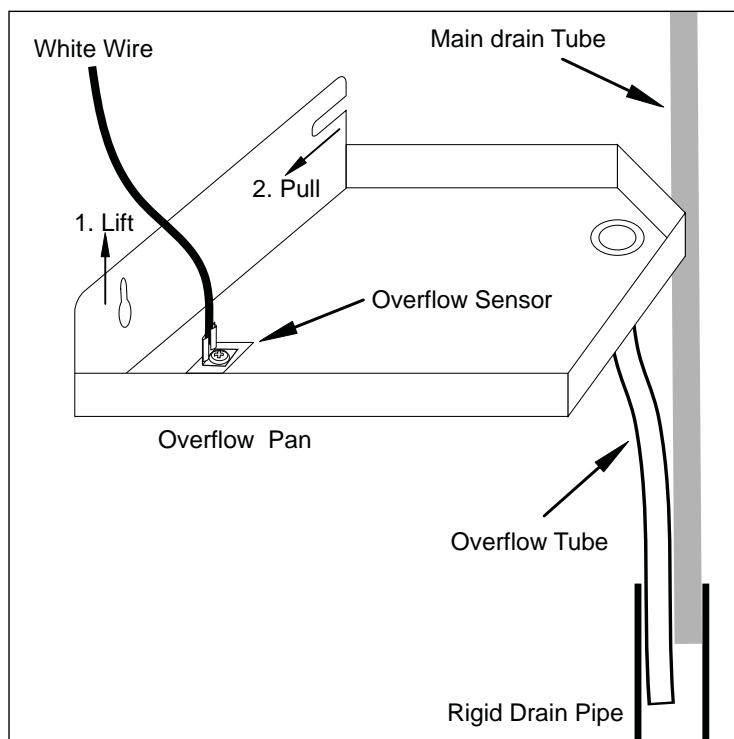

Fig. 8a
8.4 You do not have to remove the plastic tube attached to the bottom of the pan or the white wire. Remove the overflow pan from the unit by lifting the front of the pan off the screw and pulling it towards you, slightly loosen the front screw if necessary. Please see Fig. 8a. Remove the main drain tube from the rigid drain pipe attached to the wall and check that the tube is clean and clear from deposits.